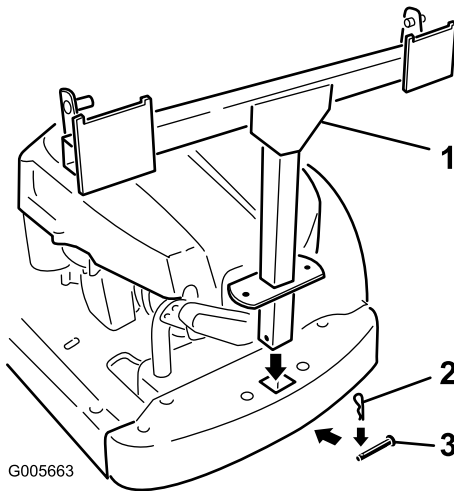

Figure 4
2. Secure the bagger frame with a clevis pin (5/16 x 2-1/4 inch) and hair pin (Figure 4).
3. Install two rods, one to each side of the bagger frame. Locate the existing slotted bracket between the rear drive wheel and frame. Start the flared end of the rod into the opening in the slot and slide the rod rearward (Figure 4).
4. Insert the bent ends of the rod into the bagger frame as shown in Figure 4. Secure the both ends of the rods with hair pins.